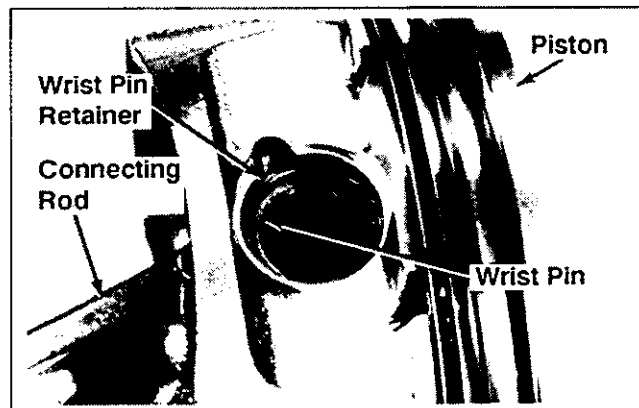

Figure 9-42. Removing Piston From Connecting Rod.
- Remove the wrist pin retainer and wrist pin. Separate the piston from the connecting rod. See Figure 9-42.